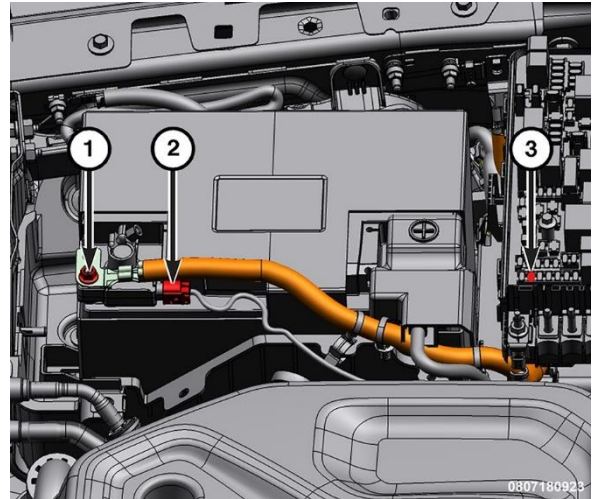

Figure 45 – Negative Battery Cable, Fuse F09 and IBS Connector
63. Remove the cover, connect the negative battery cable to the IBS and tighten the fastener (1) to 10N·m (7 ft. lbs.) (Figure 45).
64. Install the F09 (5 amp) IDCM fuse (3) in the Power Distribution Center (PDC) (Figure 45).
65. Connect the IBS harness connector (2) (Figure 45).